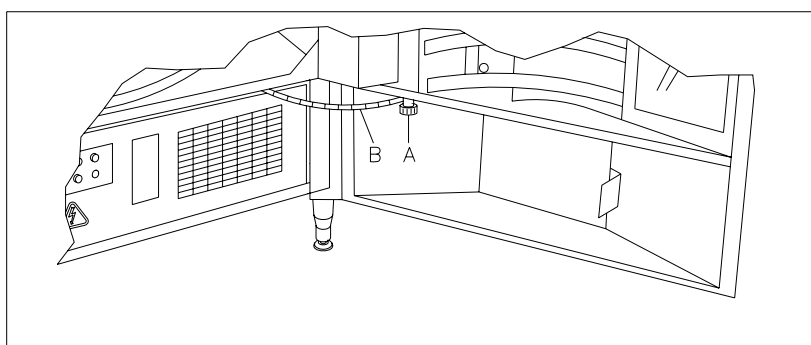

FIG. 13
- 2) Open the door, unscrew the knob (pos. A) and release the small chain (pos. B), see Fig. 13.